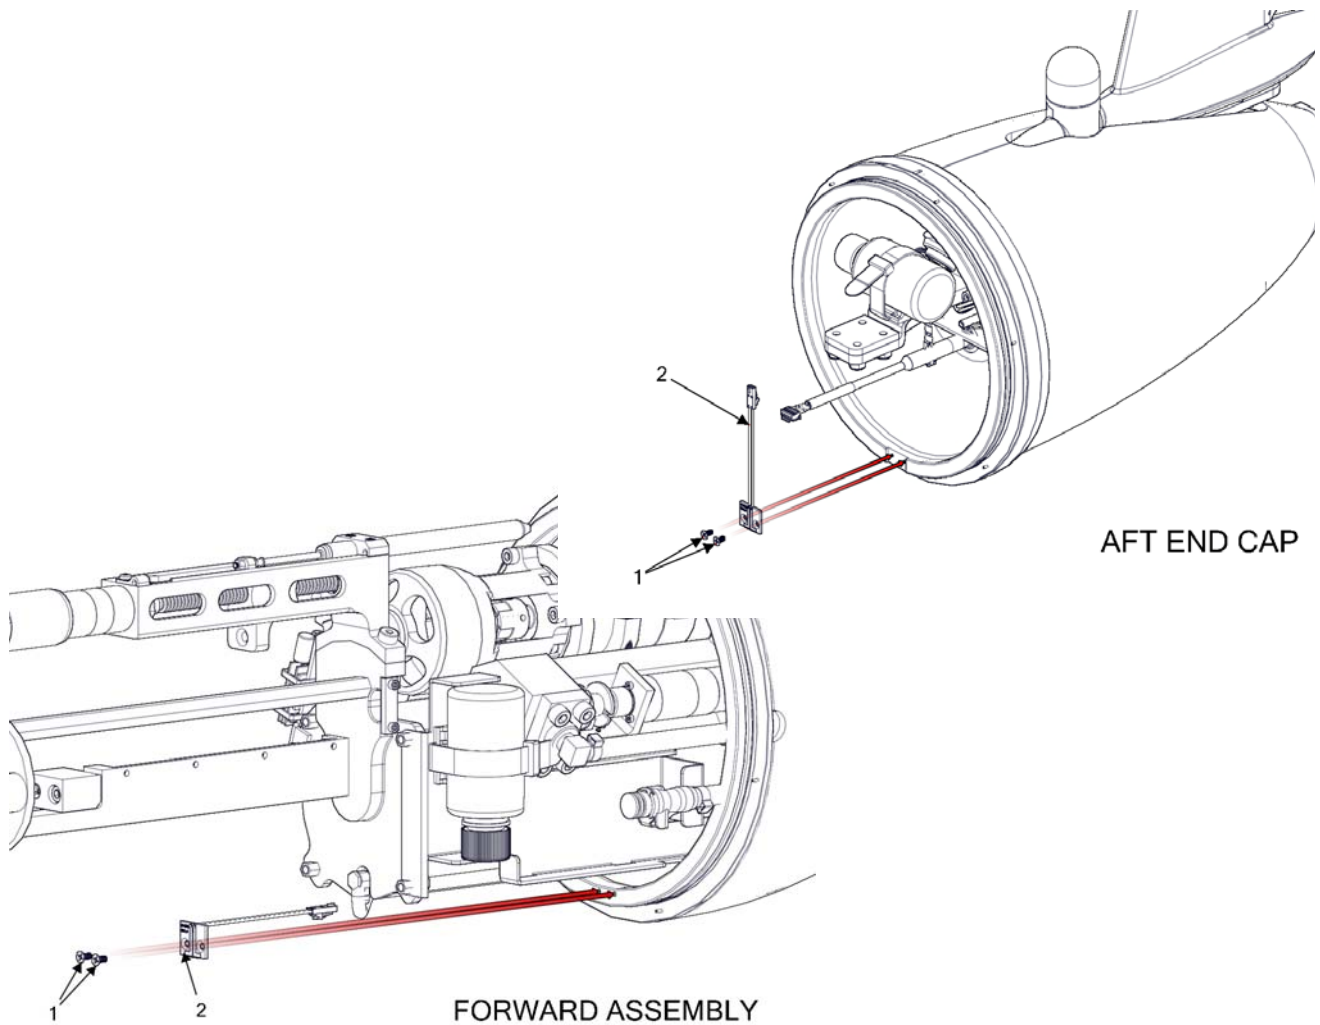

Figure 2-9 Leak detect assembly.
1. Unscrew the two screws (Figure 2-9, Item 1) from either the forward assembly or aft end cap.
2. Unplug the leak detect assembly (Figure 2-9, Item 2) from either the forward assembly or aft end cap.
3. Remove the leak detect assembly (Figure 2-9, Item 2).
1. Place the leak detect assembly (Figure 2-9, Item 2) in position on either the forward assembly or aft end cap.
2. Install the two screws (Figure 2-9, Item 1) to either the forward assembly or aft end cap.